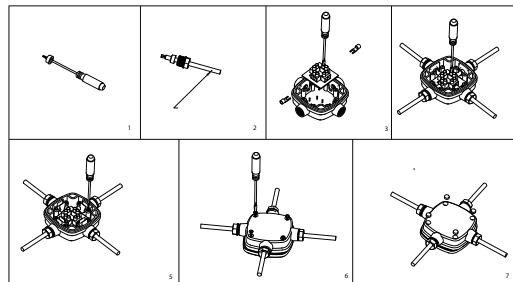

Figure 2
6. For multiple connections use SI-LITE JBOX1 (IP68 junction box) for parallel wiring, see fig 2. Order JBOX1 separately.